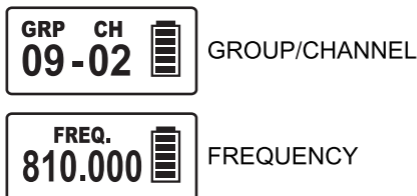

Fig. 6
3. Group (GRP)/Channel (CH)/Frequency (FREQ.) are synced from receiver and cannot be changed, Fig. 6.